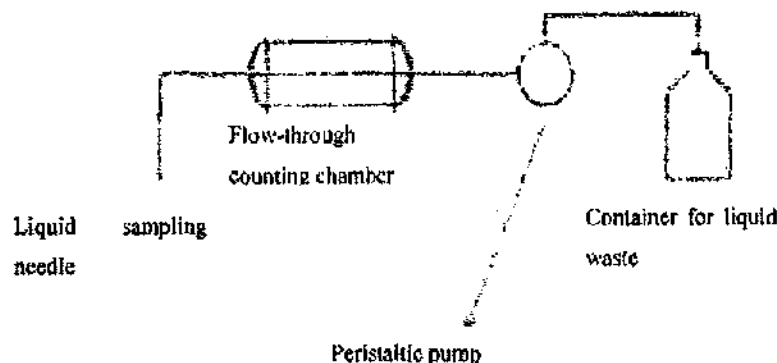

Fig. 3.2-2 Connection diagram of a flow-through counting chamber
- Connect the flow-through counting chamber to a needle to draw a liquid sample into the flow-through counting chamber on one side and a peristaltic pump on the other, as shown in (Fig. 3.2-2).